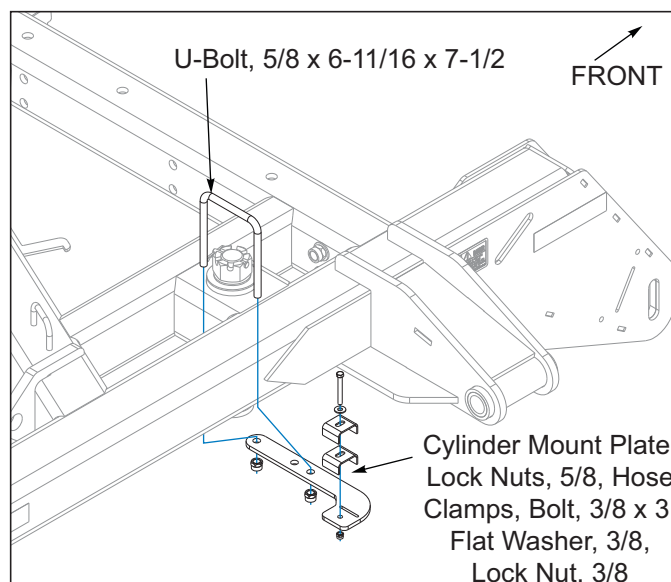

Figure 3-13: Hose Mount Plate 7531-32'-35'
8. Install the hose mount plate to outside tube of center frame, both sides using 5/8 x 6-11/16 x 7-1/2 u-bolts and 5/8 lock nuts See Figure 3-13. Attach hose clamps with 3/8 x 3 bolt, 3/8 flat washer and 3/8 lock nut.